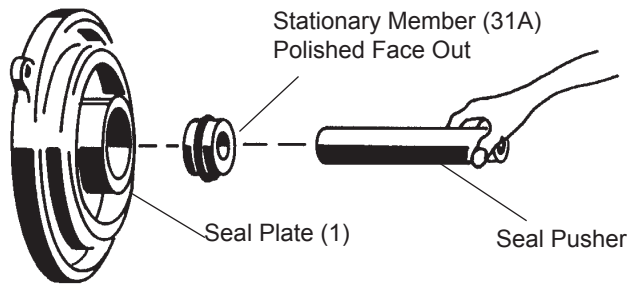

FIGURE 7
Seal - Clean and oil seal cavities in seal plate (1). Lightly oil (DO NOT use grease) outer surface of stationary member (31a). Press stationary member (31a) firmly into seal plate (1), using a seal pusher (see parts list- seal tool kit), nothing but the seal pusher is to come in contact with seal face (see Figure 7).